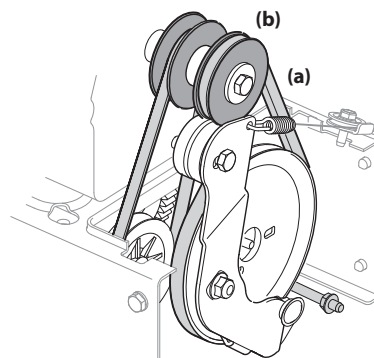

Figure 4-17
- Slip the front auger belt (a) off of the engine pulley (b), pushing it forward and rolling it off of the engine pulley (b). See Figure 4-17.